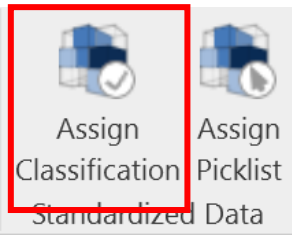
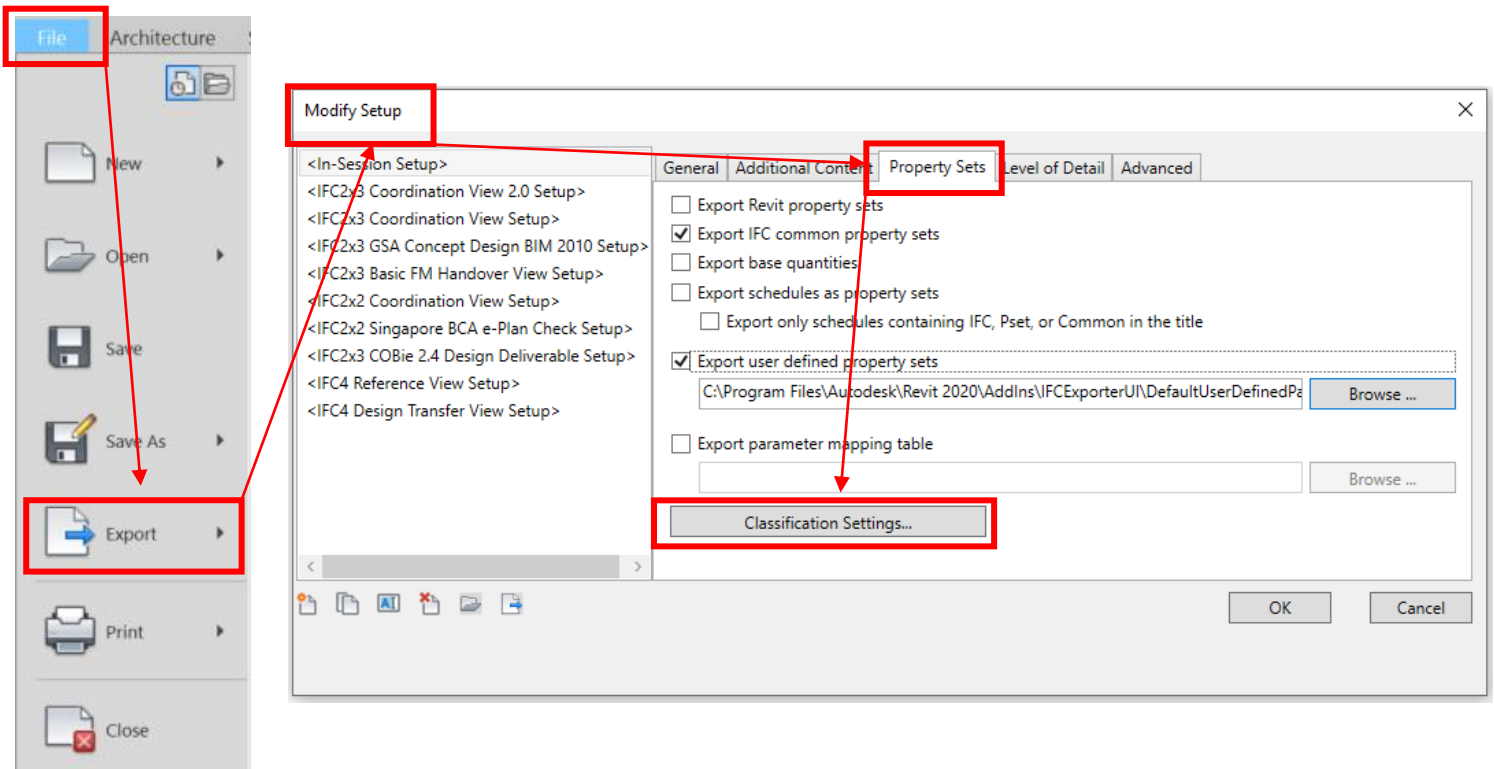

Figure 3 - Standardised Data ribbon – Assign Classification
Figure 4 - IFC Modify Setup Property Sets
3. Select the *Assign Classification* on the Standardised Data Tool ribbon per figure 3, use the picklist icon per figure 4 to display the master asset list loaded in step 2.